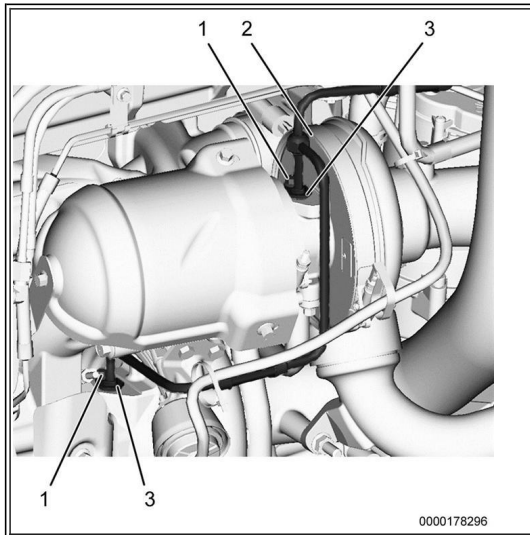

Figure 11: Turbocharger Oil Supply Openings.
26. Press turbo oil supply tube fittings into openings on turbocharger (Figure 11, Item 2).
27. Align turbo oil supply tube flanges (Figure 11, Item 3) and loosely install the two previously removed M6 X 16 bolts (Figure 11, Item 1). Using torque wrench, tighten bolts to 10 lb-ft (13 N•m).